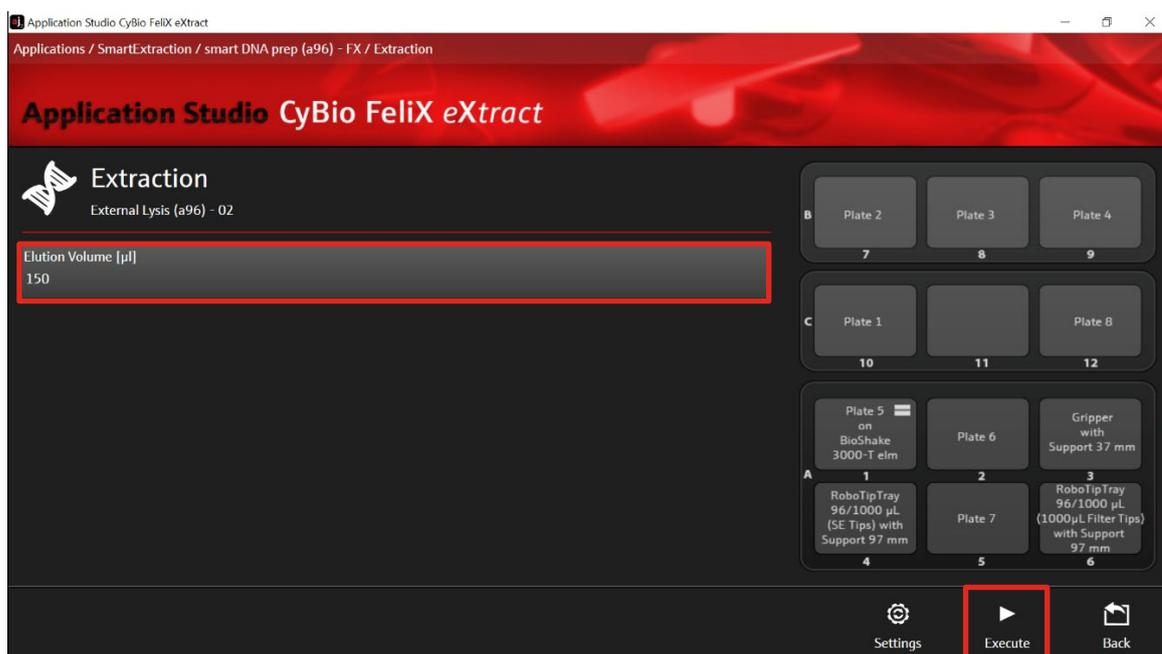

Figure 16: Adjustment of elution volume.
8. After selecting Extraction, the Extraction Start Screen appears (→ see Figure 16).
- Adjust the "Elution Volume" to 150-500 μL according to the table below. Start the protocol by clicking the button "Execute" (→ see Figure 16).